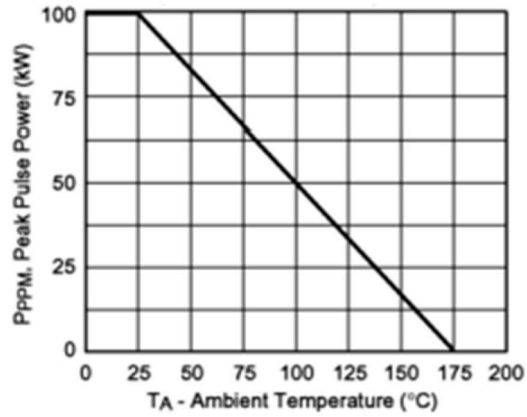
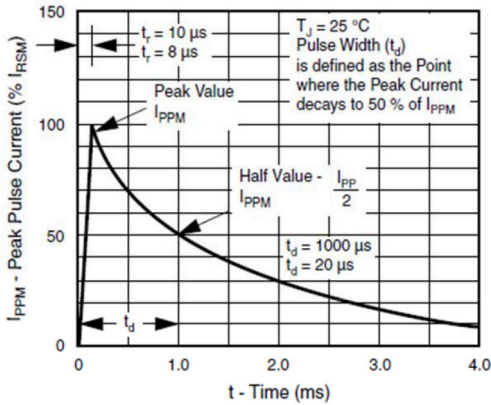

Fig. 2 - Pulse Power or Current vs. Initial Junction Temperature
Fig. 3 - Pulse Waveform
- 1) Non-repetitive current, per fig.3 and derated above TA=25°C per fig.2.